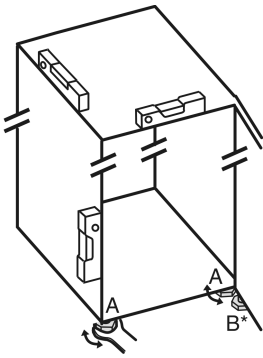

Fig. 3
- ▶ Unscrew the adjustable feet Fig. 3 (A) using the enclosed open-end spanner and a spirit level until the appliance is firmly aligned and level.
- ▶ Unscrew the adjustable foot Fig. 3 (B) on the swap bearing block with the enclosed open-end spanner until it rests on the floor.
- ▶ Turn the adjustable foot Fig. 3 (B) 90° further.